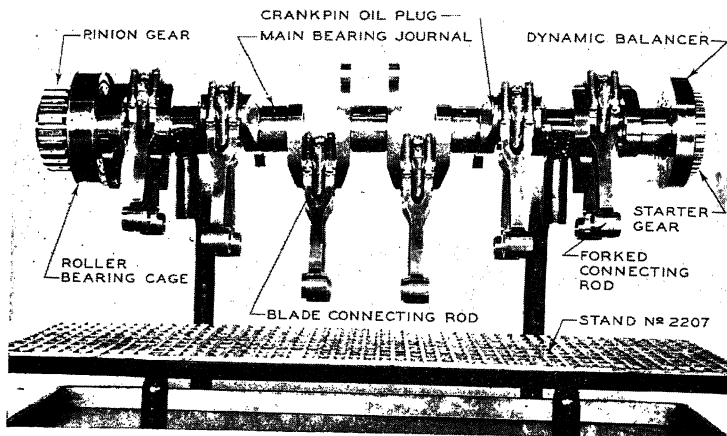
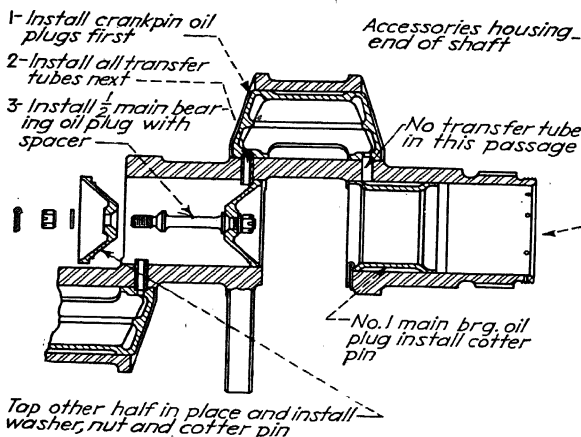

FIG. 17.—A convenient stand for overhauling crankshaft and connecting rod bearings.
FIG. 18.—Oil plugs and tubes that connect the oil cavities.
**Crankshaft and Connecting Rods.**—Such an overhaul stand as is seen in Fig. 17 is most convenient for crankshaft and connecting-rod work. Figures 18 and 19 show details of the rods. The main journal oil plugs are removed first, these being aluminum caps held by studs and nuts. The transfer tubes, shown in Fig. 18, carry oil from the main bearings to the crankpins